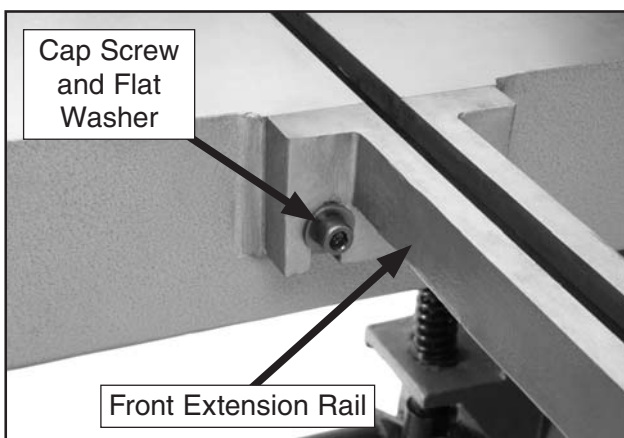

Figure 3. Front extension rail installed.
3. Place the front extension rails over the cap screws and behind the flat washers (**Figure 3**)